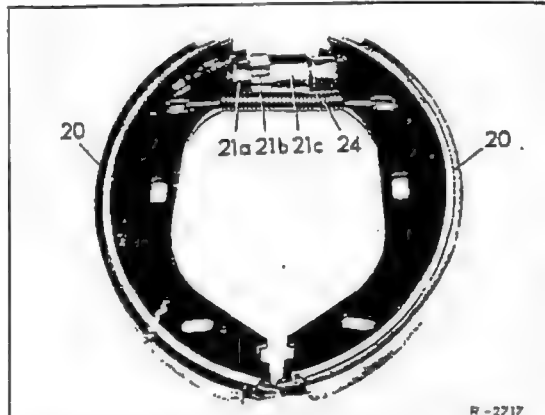

Fig. 42-28/6
11. Press the pin (33) out of the expansion lock (36) and remove the expansion lock from the brake cable (39) (Fig. 42-28/9).